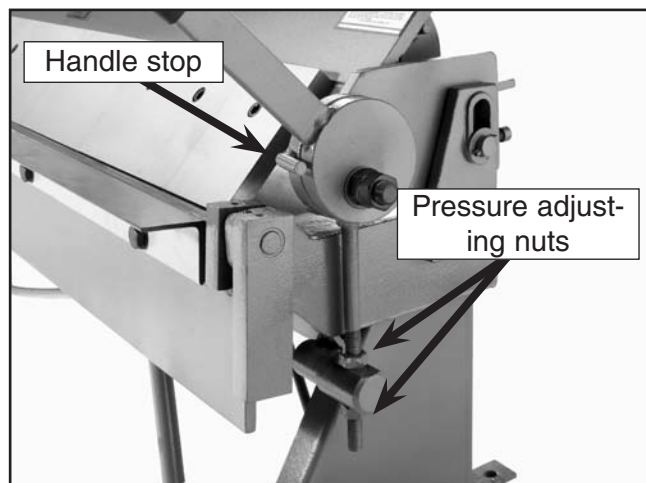

Figure 13. Clamping pressure adjusting nuts and handle stop (right end shown).
3. Loosen the upper and lower nuts shown in **Figure 13**, and adjust both up or down until the clamp handles are in the 2:00 and 10:00 position when the clamping leaf just touches the workpiece.
*Note—The clamping pressure is in proper adjustment when the clamping handle "snaps" (or locks) into position against the handle stop shown in **Figure 13**.*